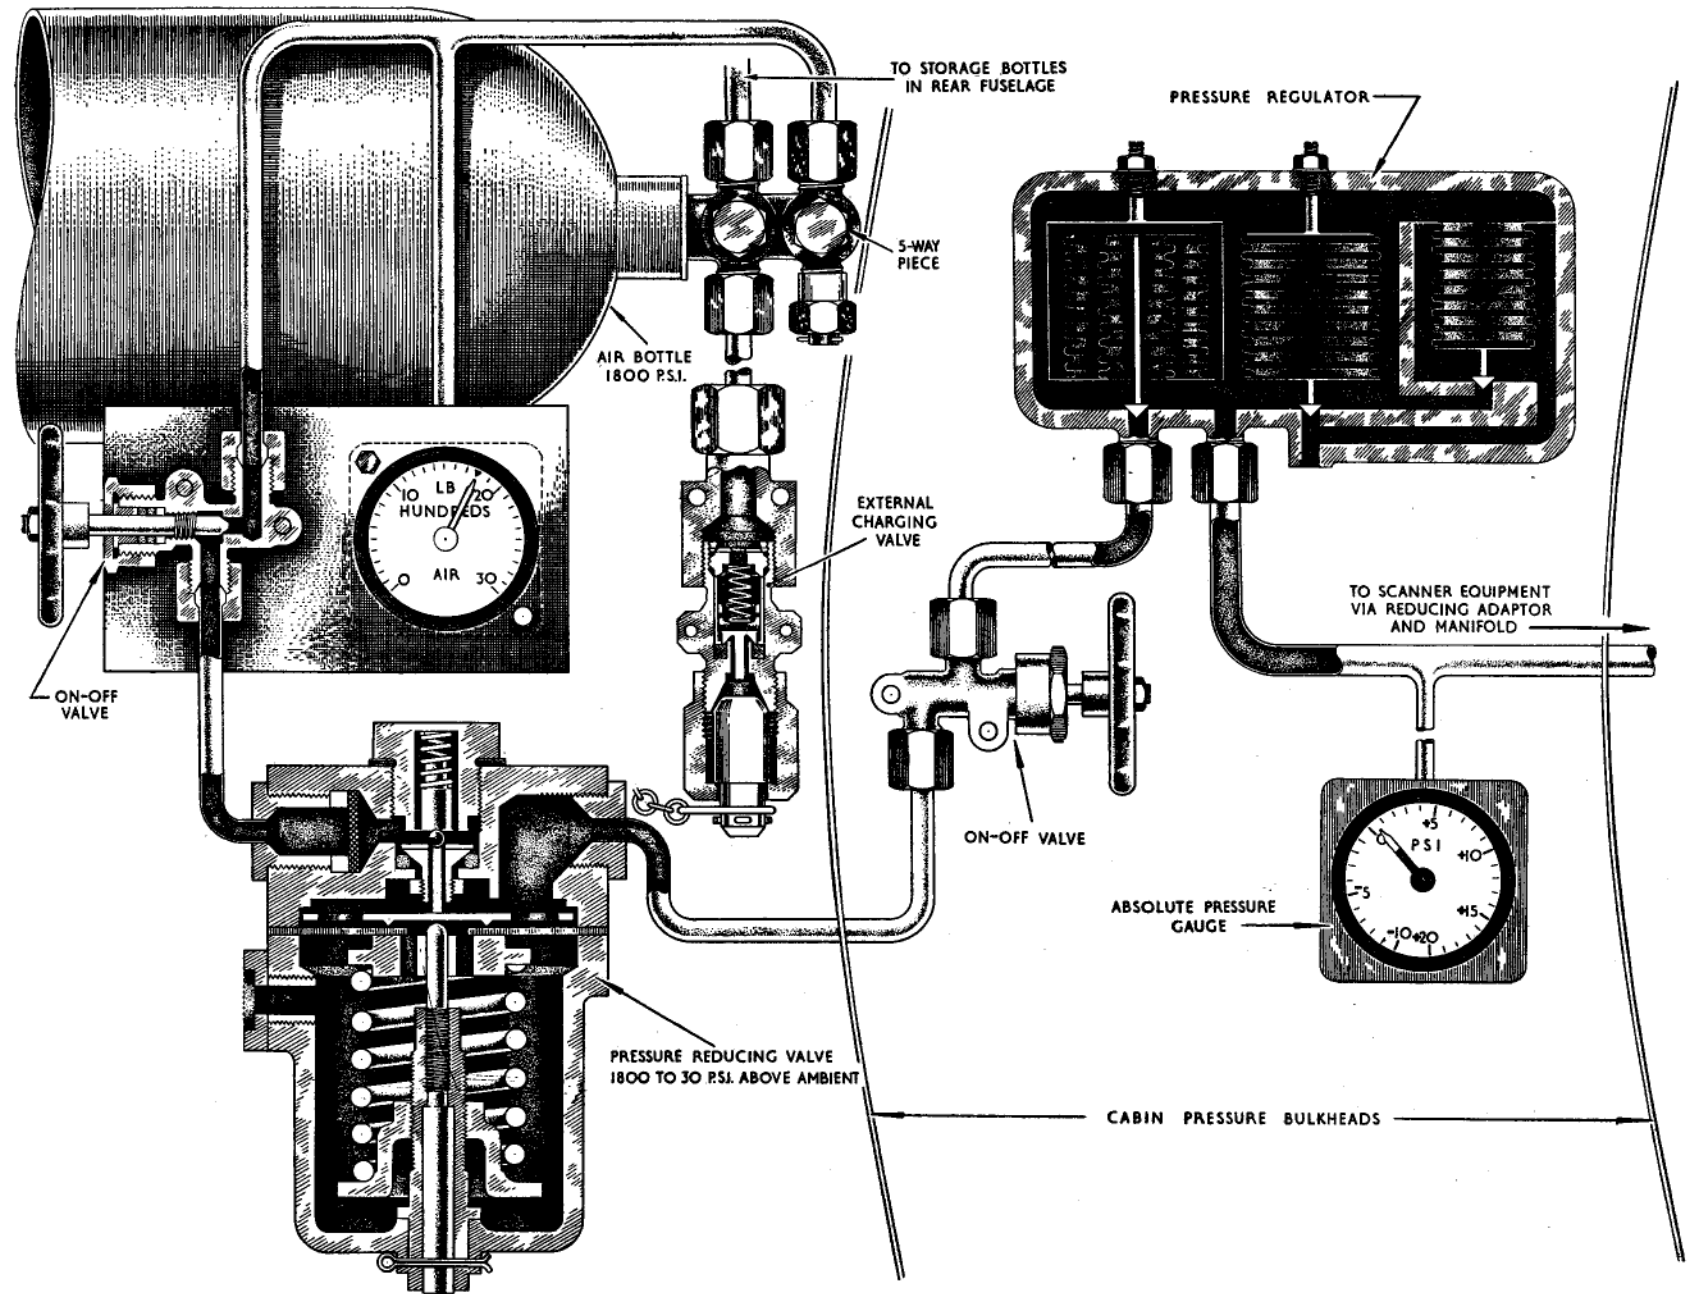

Fig. 5. Scanner pressurisation system
External charging valve (fig. 5)
Pressure reducing valve (fig. 5)
Pressure regulator (fig. 5 and 6)
Absolute pressure gauge (fig. 5)
(2) Attach a clean dry air supply to the external charging valve (*fig. 5*) and charge until the gauge (accessible through the forward panel of the staboard servicing bay) reads 1800 lb. per sq. in.
(3) Disconnect the ground air supply and check the pipes and connections for leaks.